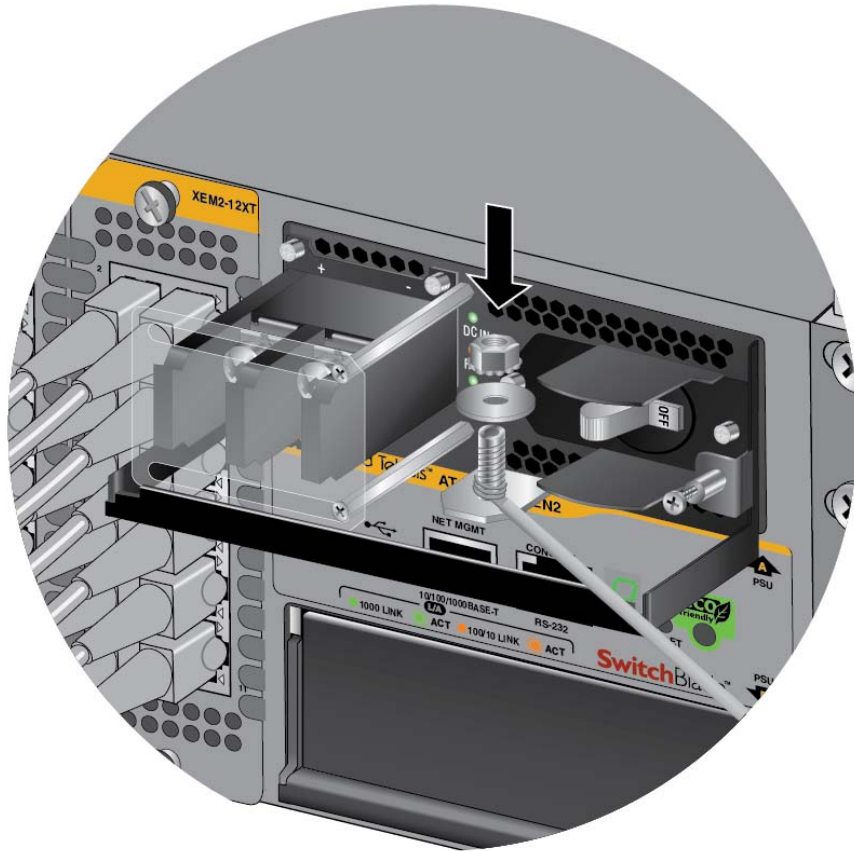

Figure 60. Securing the Bare Grounding Wire to the Grounding Post
5. Secure the wire with the nut and washer removed in step 2, and an 8 mm wrench, as shown in Figure 60.